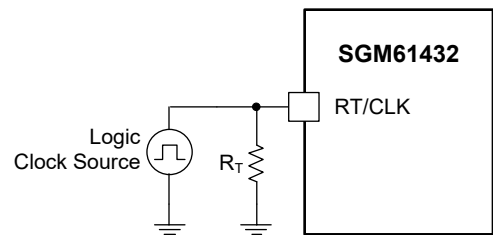

Figure 4. Synchronization to External Clock
The internal oscillator can synchronize to an external logic clock applied to the RT/CLK pin (see Figure 4) in the 250kHz to 2300kHz range. The SW rising edge (switch turn-on) is synchronized with the CLK falling edge. The CLK low and high levels must be less than 0.7V and more than 1.7V and have a pulse width larger than 30ns. So, when the CLK source is off, the DC resistance (RT) between RT/CLK and GND pins determines the default switching frequency.